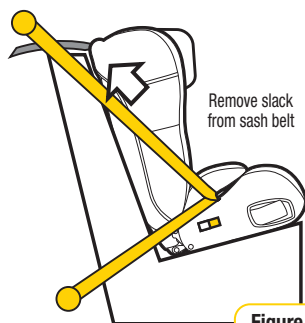

Figure 8
- Fold the seat cover and foam pad back into position to cover the vehicle belt (refer Figure 8 & 9).